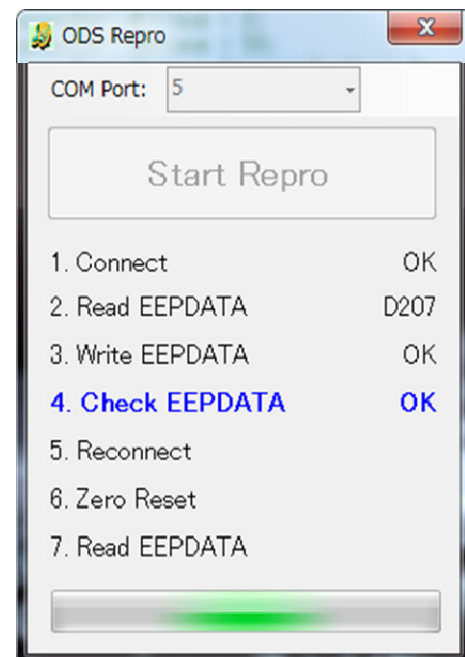

Figure 15
- Items 1 through 4 (Figure 15) will likely complete quickly.